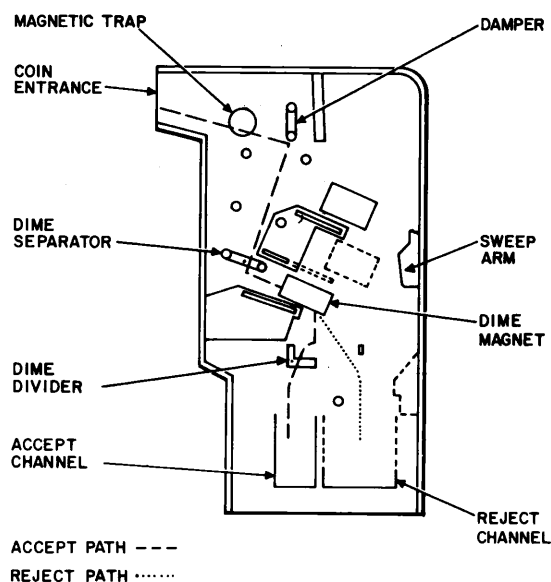

Fig. 3—Dime Path in a Typical Coin Chute
2.03 Dime Operation—Valid Coin Accepted (Fig. 3):
2.04 Dime Operation—Coin Rejected (Fig. 3):